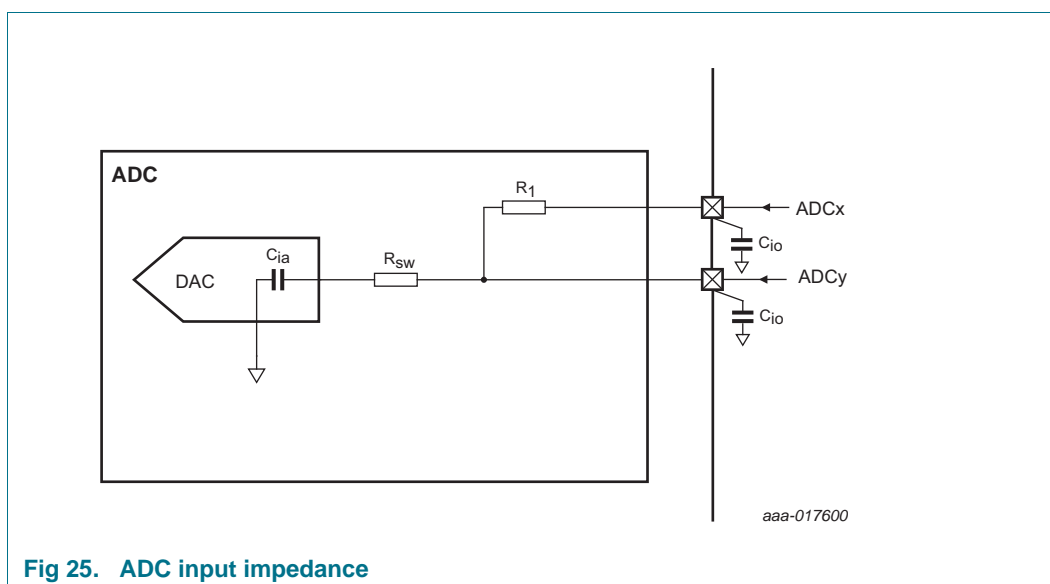

Fig 25. ADC input impedance
- [10] Input impedance Z_i is inversely proportional to the sampling frequency and the total input capacity including C_{ia} and C_{i0} : $Z_i \propto 1 / (f_s \times C_i)$. See Table 16 for C_{i0} . See Figure 25.
Figure 25 shows the ADC input impedance. In this figure: